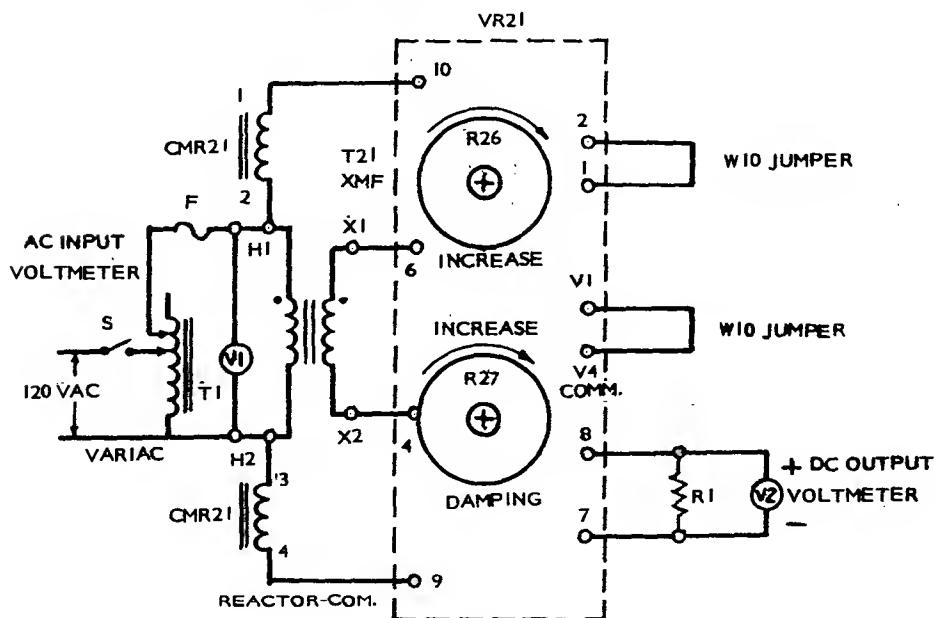

FIGURE 7. VOLTAGE REGULATOR CHECKOUT TEST EQUIPMENT CONNECTIONS
2. Referring to Figure 7 and Table 1, connect test equipment to the printed circuit board VR²¹ terminals as follows: